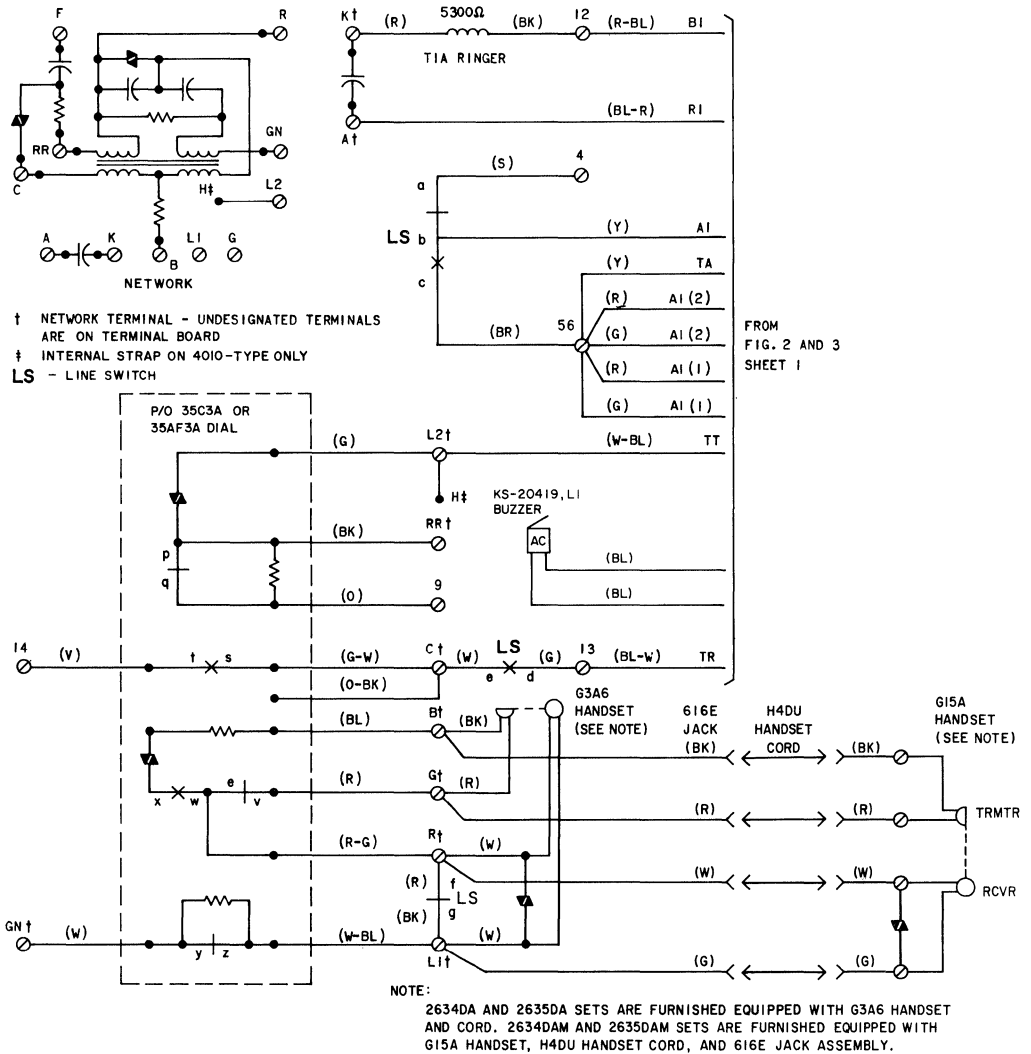

Fig. 1—2634DA or DAM and 2635DA or DAM Telephone Set Connections
1.03 Nonmodular 2634DA and 2635DA telephone sets are furnished from the factory equipped with a G3-type handset and cord. Modular 2634DAM and 2635DAM telephone sets are equipped with a G15A handset, H4DU handset cord, and 616E jack assembly (Fig. 1).